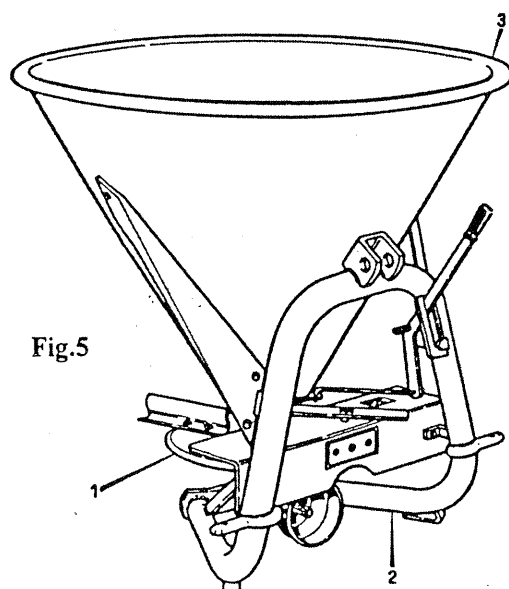
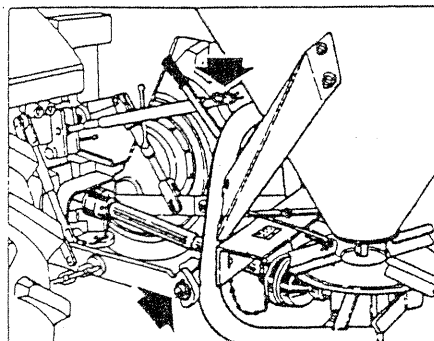

Fig.5
Fig.10
(vedi fig.5)
The machine essentially consists of: (see fig.5)
- 1- Fix the gear-box (1) to the frame(t).
- 2- Mount the spreading disc (2) on the gear box (1) and fix it by the proper pin.
- 3- Fix the guard (3) to the frame (t).
- 4- Fix the two side supports (4) to the frame.
- 5- Introduce the snap ring, the washer the dosing-disc and the adjustment disc in the gear box (see fig.5).
- 6- Fix the hopper (6) to the side supports (4) and to the frame.
- 7- Introduce the agitator bush guide (7) in the unloading hole.
- 8- Fix the agitator (8) on the shaft of the unit.
- 9- Mount the hopper reinforcement bar (9) and fix it together with the side supports (4) by the fit screwstt.
- 11- Mount the adjustment lever (11) and connect the flow adjustment bars to the dosing disc (the one with 2 holes).
7.1 APPLICAZIONE AL TRATTORE (Fig.10)
7.1 TRACTOR CONNECTION (Fig.10)